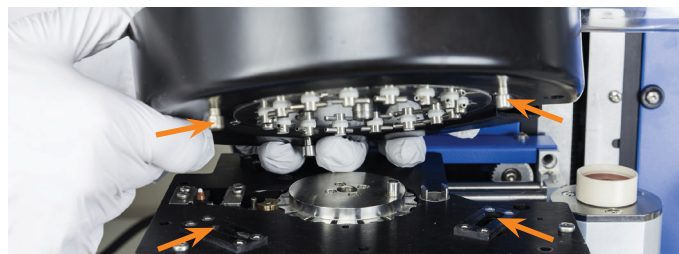

Figure 13. Aligning the front pegs with the holes on the carousel carriage.
1. Insert the two front pegs on the bottom of the carousel sample holder into the corresponding holes in the carousel carriage (see Figure 13) and let the sample holder fall into place.